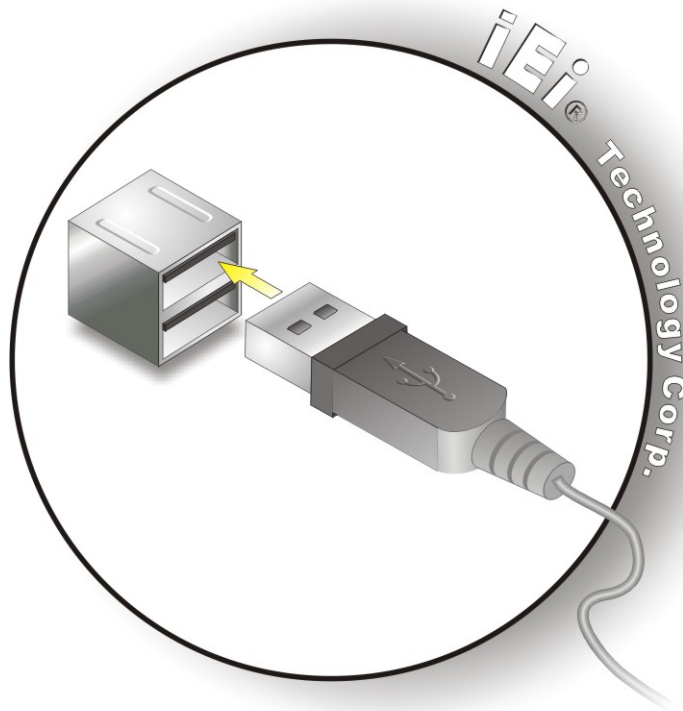

Figure 5-17: USB Connector
Step 2: **Insert a USB Series "A" plug.** Insert the USB Series "A" plug of a device into the USB Series "A" receptacle on the external peripheral interface. See Figure 5-17.